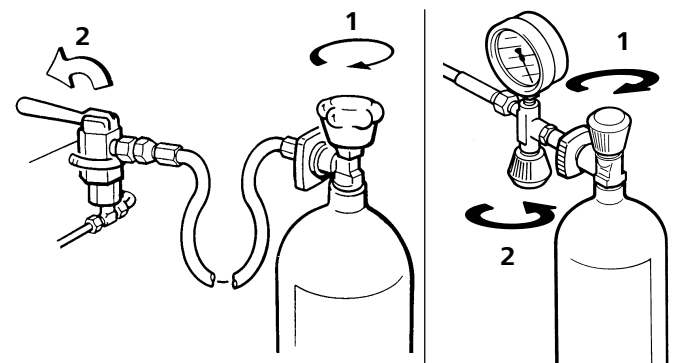

Fig. 12 Removing air bottle
- Upon reaching final bottle pressure **close bottle valve first** (1, Fig. 12), **then filling valve** by returning handle to closed position (2).